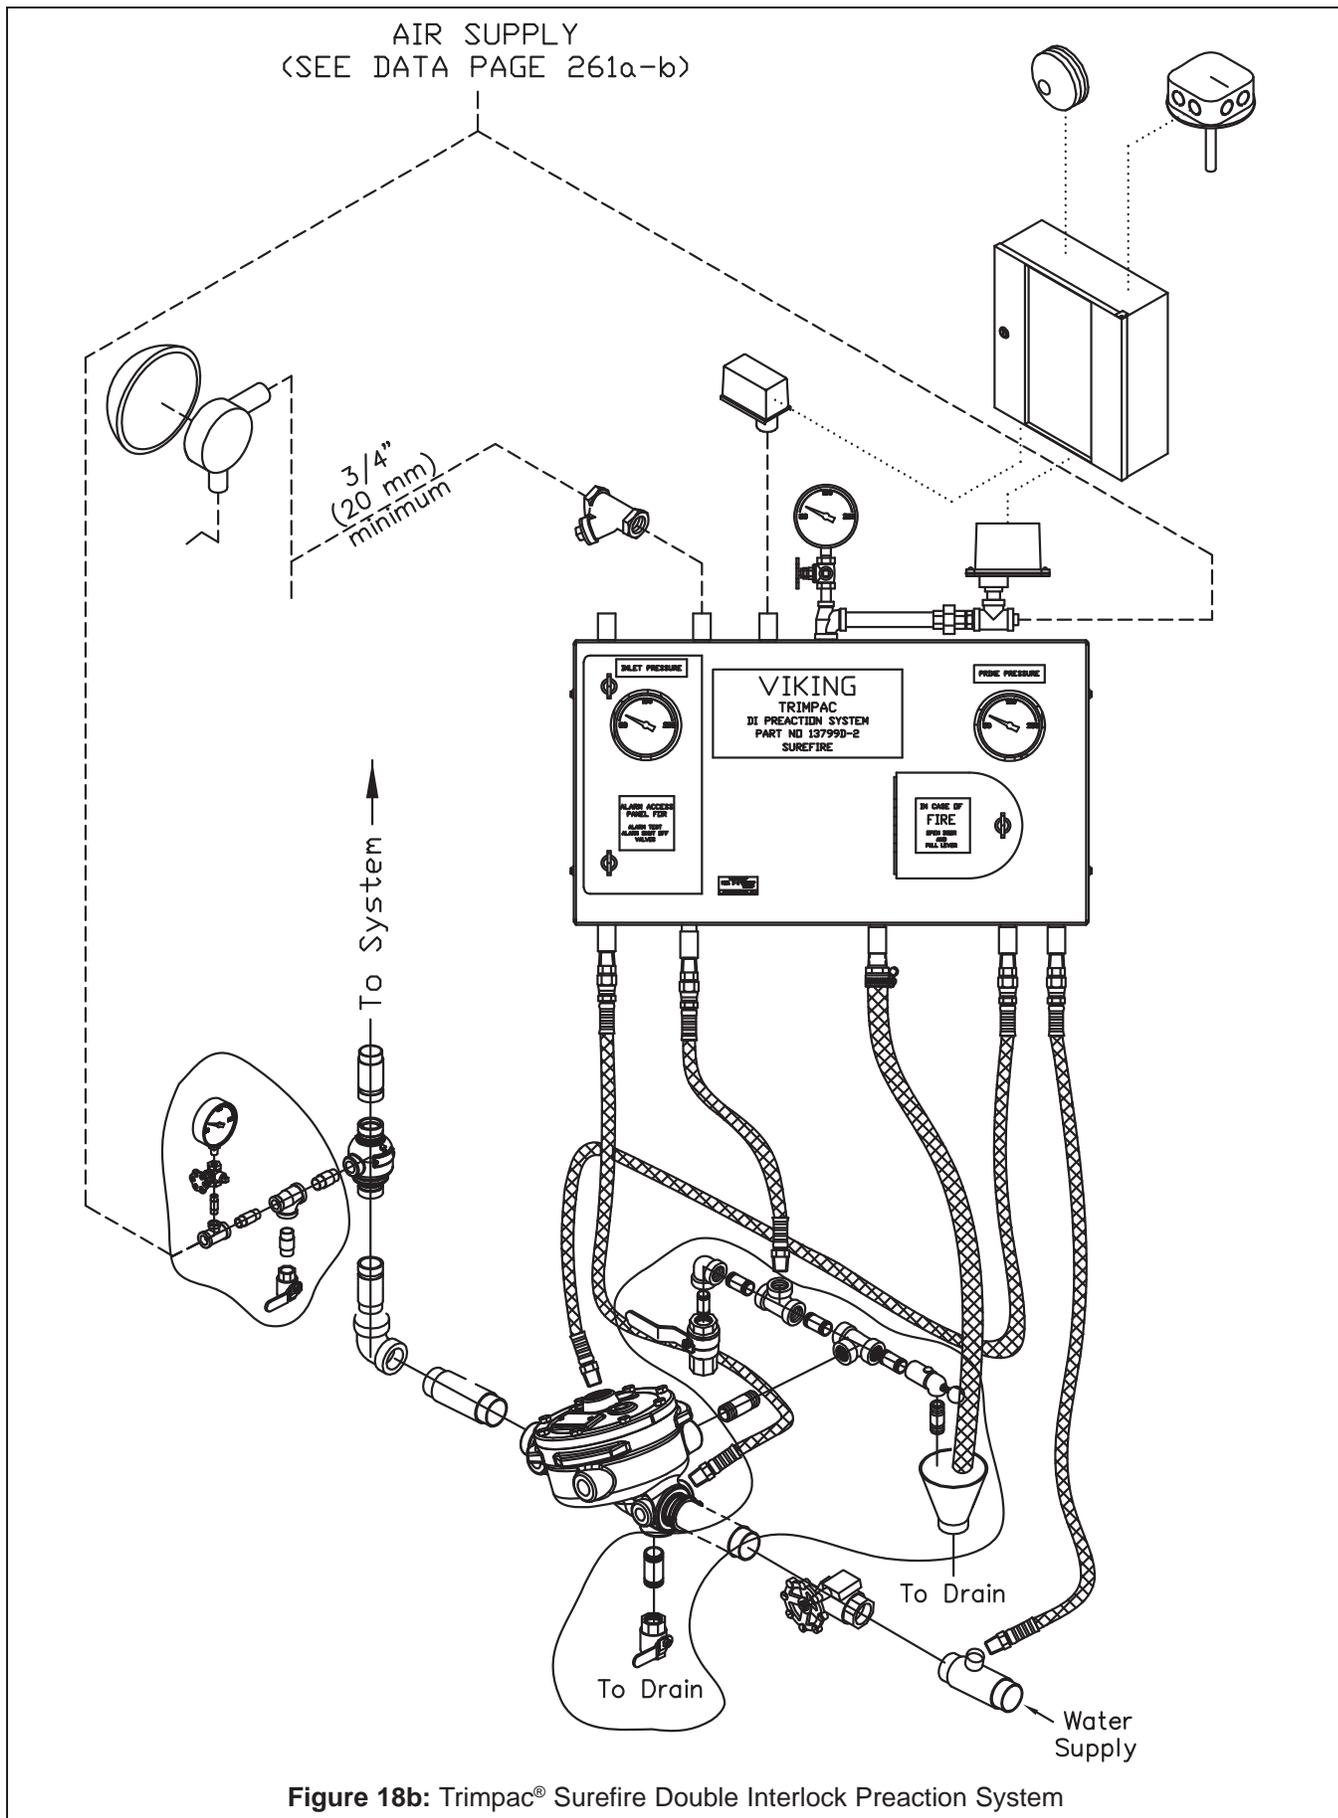

Figure 18b: Trimpac® Surefire Double Interlock Preaction System
2. Trimpac® Surefire® Double Interlock Preaction System (Figure 18b)